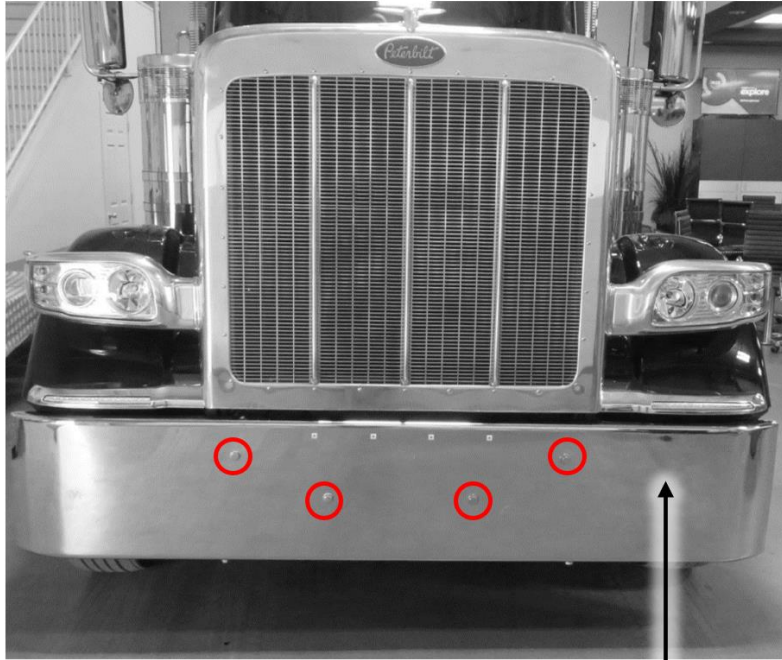
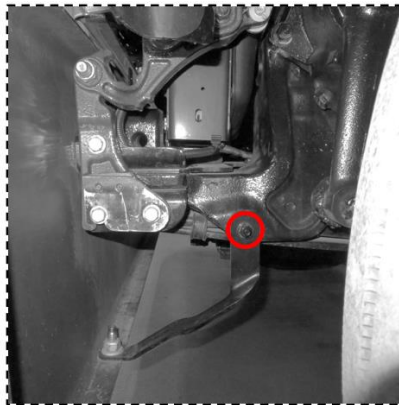

Figure 1a: Front Bumper Fasteners
Figure 1b: OEM Bumper Side Fasteners
1. If your truck is equipped with a center tow section, remove it. Remove the OEM front bumper by removing the circled bolts shown in Figure 1a and the bumper side fasteners, one per side; see Figure 1b. Retain the removed hardware for later use.